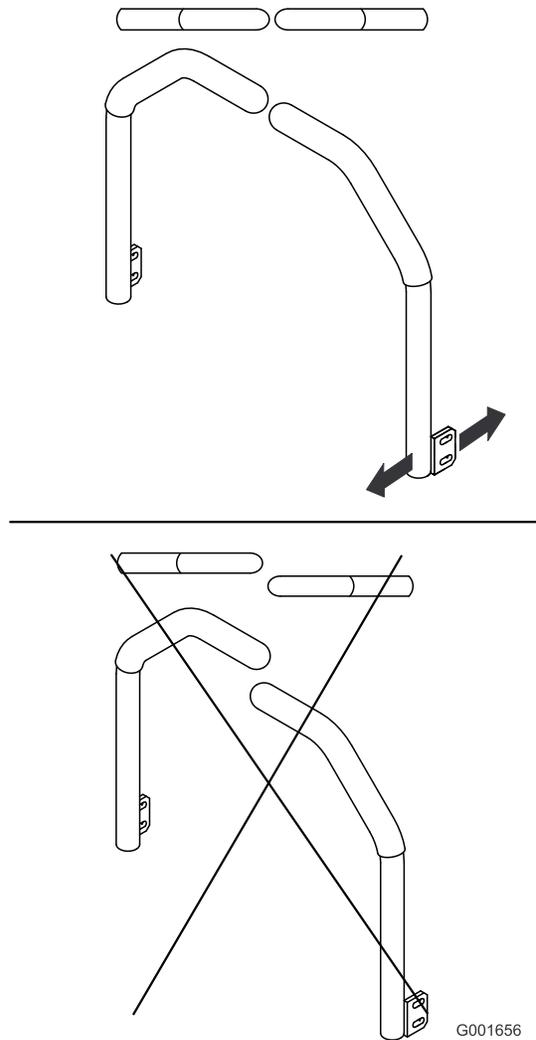

Figure 91
5. Adjust the control levers so that they line up and tighten the bolts, securing the levers to the posts (Figure 91).